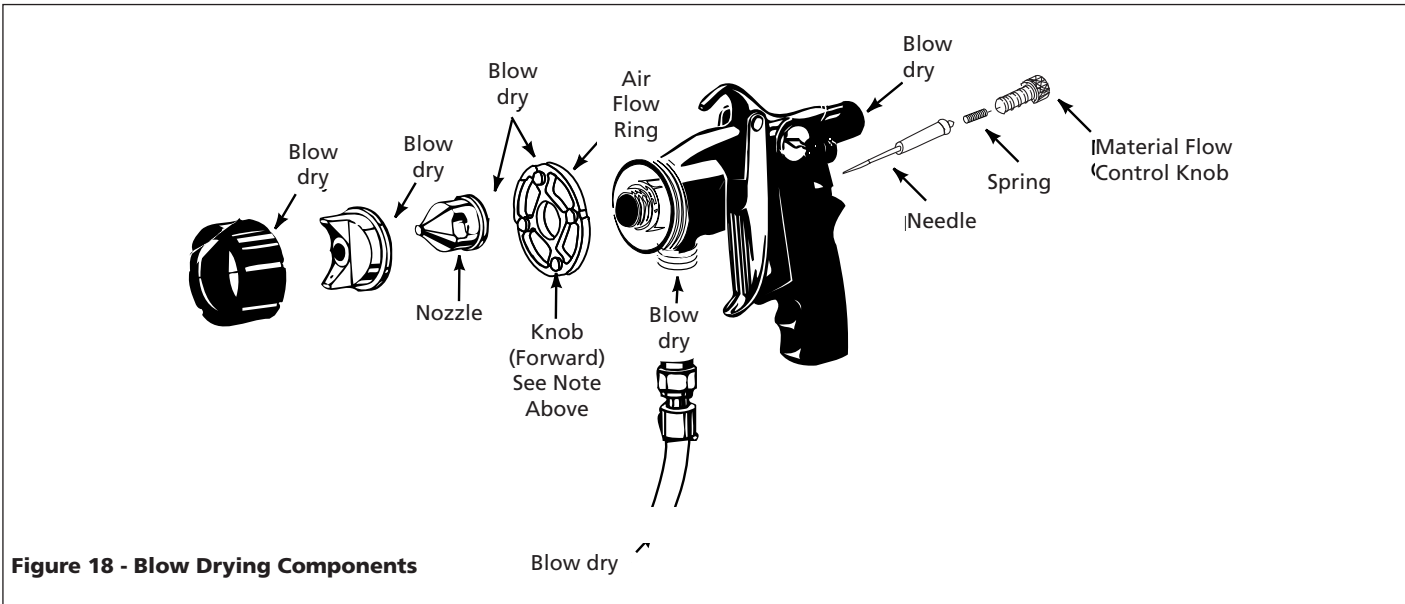

Figure 18 - Blow Drying Components
5. Reinstall the components in reverse order of disassembly (See Figure 18). Always install nozzle before installing the needle to prevent needle damage.
6. When the gun and all parts are thoroughly cleaned, use the turbine hose to dry the parts and blow the passages dry. Thorough drying of the gun and all components prior to reassembly prevents coating contamination during the next operation of the unit, and inhibits oxidation of internal gun components (See Figure 18).
NOTICE *The four raised knobs on the air flow ring must be facing forward (toward the nozzle) when assembled. (See Figure 18).*